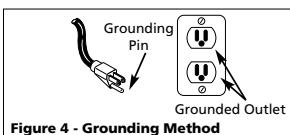

Figure 4 - Grounding Method
- This product is for use on a nominal 120 volt circuit and has a grounding plug that looks like the plug illustrated in Fig. 4. Make sure the product is connected to an outlet having the same configuration as the plug. This product must be grounded. In the event of an electrical short circuit, grounding reduces risk of electrical shock by providing an escape wire for electric current. This product is equipped with a cord having a grounding wire with an appropriate grounding plug. Plug must be plugged into an outlet that is properly installed and grounded in accordance with all local codes and ordinances.